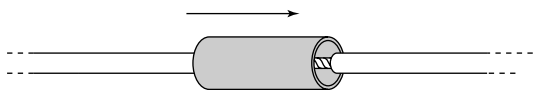

FIGURE 9-6: Slip heat-shrink tubing over connection.
- When the solder connection is completely cool, slip the heat-shrink tubing over the connection (see Figure 9-6).